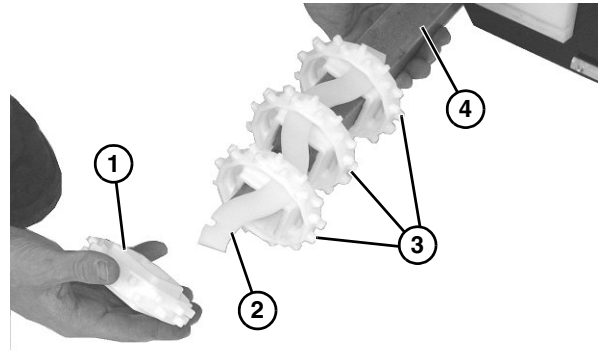

Figure 30
10. Slide entire sprocket assembly slightly outward, and remove the first sprocket (**Figure 30, item 1**) off the drive spindle and alignment bar (**Figure 30, item 2**).
11. Remove remaining sprockets (**Figure 30, item 3**) off the alignment bar as you slide entire assembly off the drive spindle (**Figure 30, item 4**).